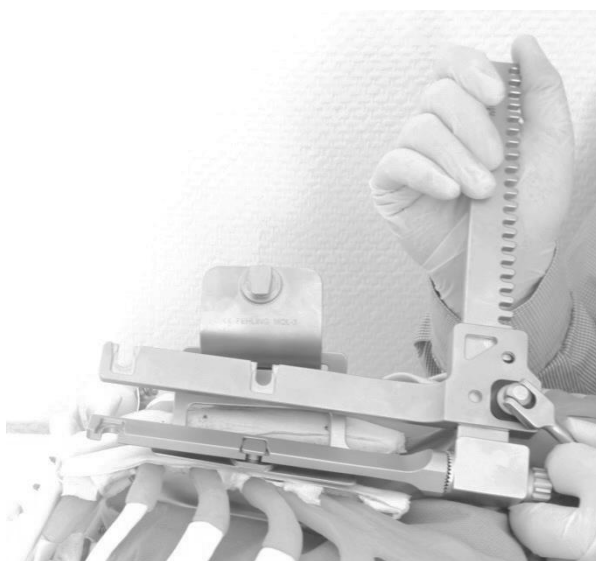

Fig. 12
3. Insert the sternal retractor with the mounted sternal blade into the saw gap and position it at the desired retraction point (Fig. 12).